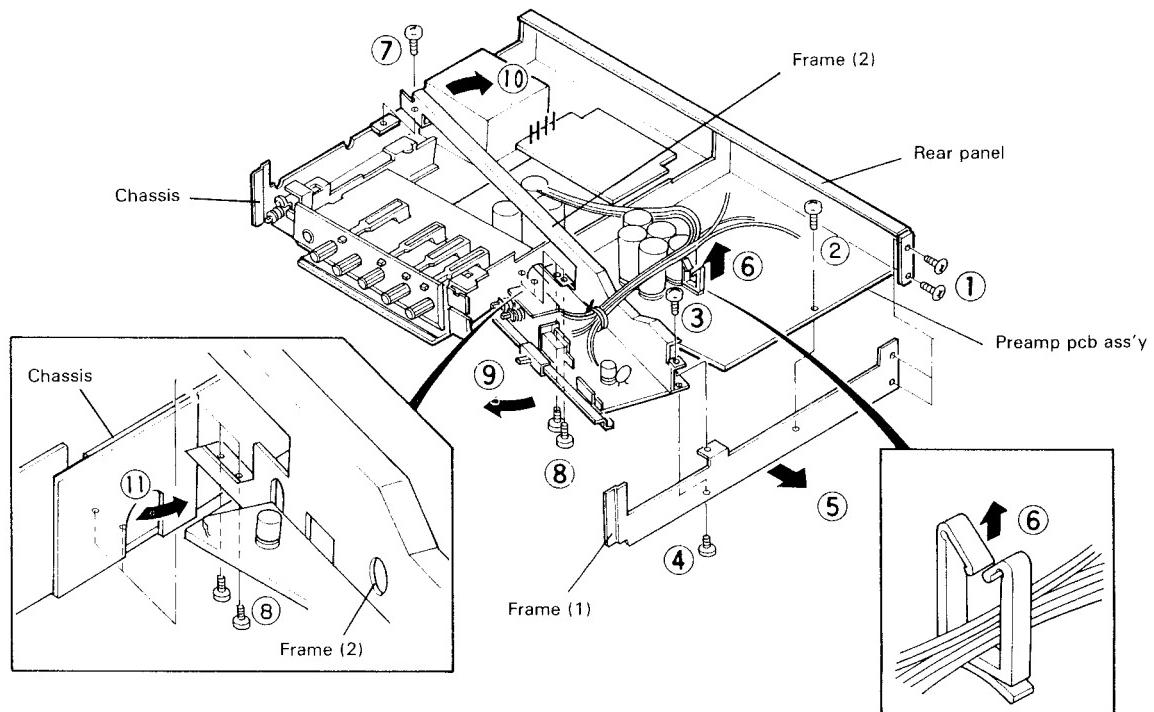

Fig. 6 How to remove switch pcb ass'y
3. Remove the screws from the right side of the rear panel. (Fig. 6-①)
4. Remove the screw, on the preamp unit, from the frame (1). (Fig. 6-②)
5. Remove the screws from the frame (1) and (2). (Fig. 6-③, ④)
6. Remove the frame (1). (Fig. 6-⑤)
7. Remove the leads from wire clammer. (Fig. 6-⑥)
8. Remove the screw from the frame (2). (Fig. 6-⑦)
9. Remove the 2 screws on the bottom plate, from the frame (2). (Fig. 6-⑧)
10. Slide the frame (2) rightward and turn 30° clockwise.